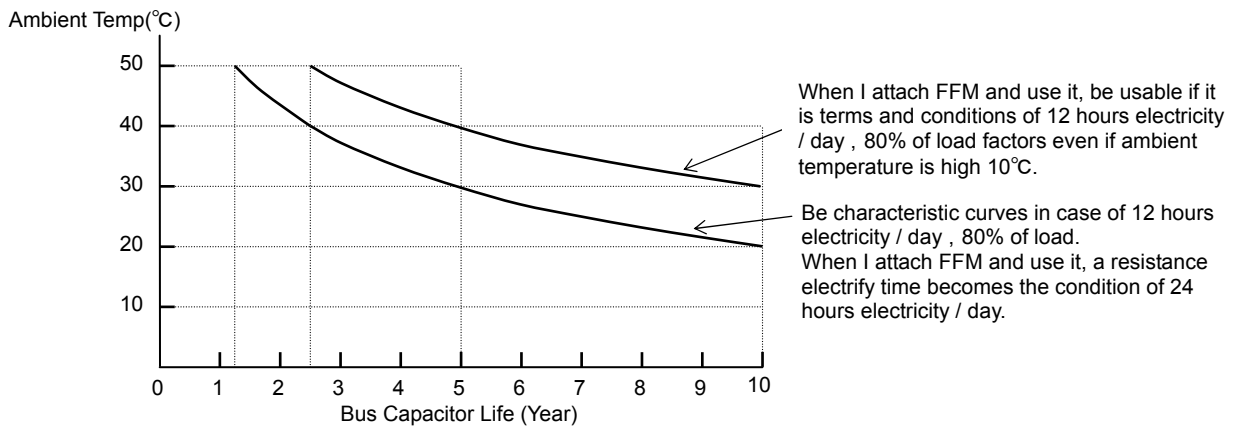

Figure 8. Carve of Bus Capacitor Life
• Bus capacitor life doubles approximately when I attach optional FFM to an applicable model. The detail refers to figure 8